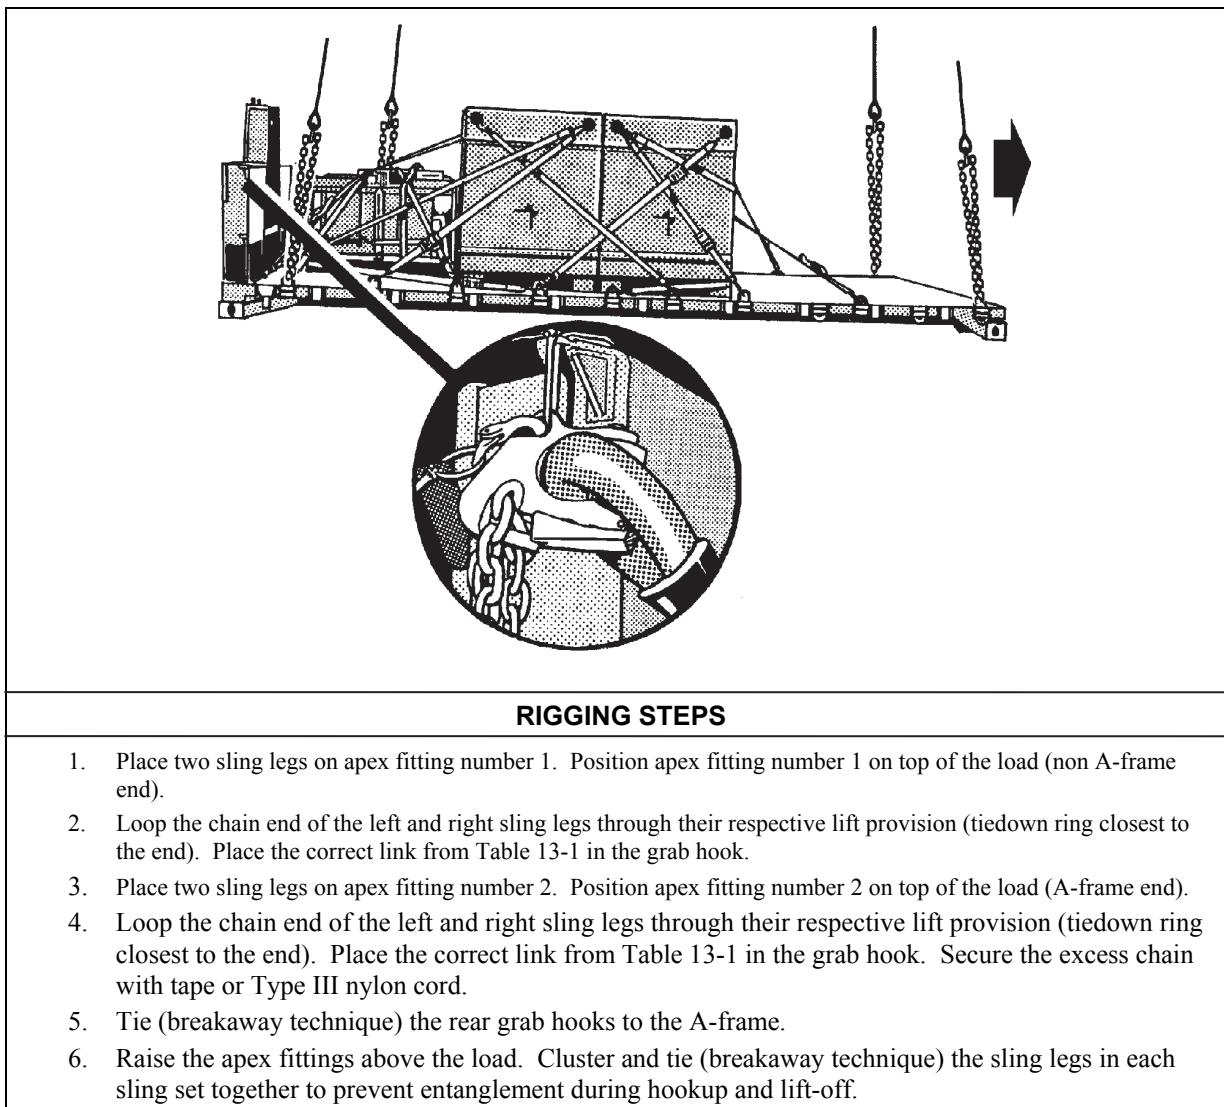

Figure 13-1. Palletized Loading System, M1077 Flatrack, Loaded
- **Rigging.** Rig the load according to the steps in Figure 13-1.